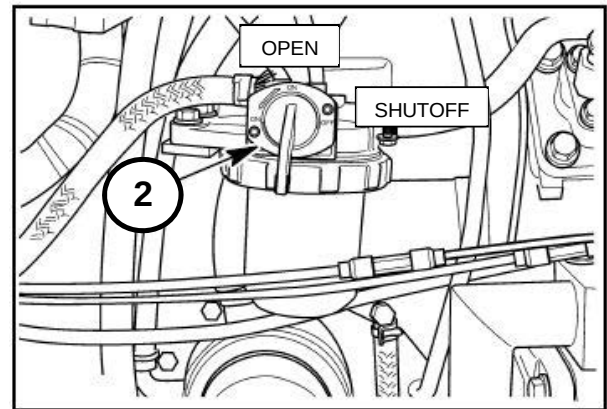

Figure 2-24
The fuel shutoff valve (2) in Figure 2-24, is located in the fuel line, on top of the fuel filter. The fuel filter is located on the right-hand side of the engine.